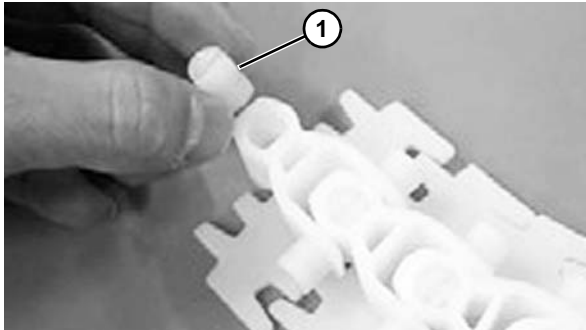

Figure 46
1. Insert the plastic pivot (**Figure 46, item 1**) with the slot facing outward.